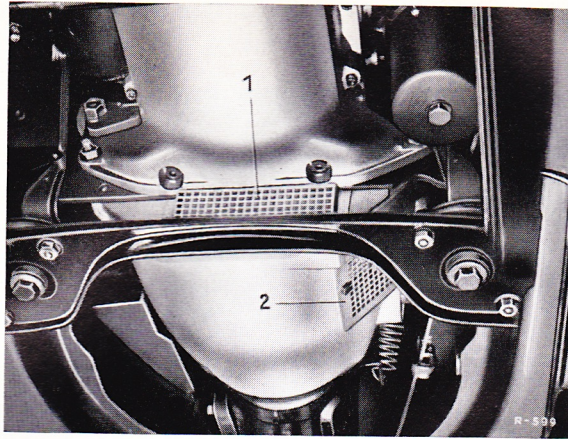

Fig. 25-0/13
**After every 8,000 km these cover plates must be carefully cleaned.** To do this, unscrew the cooling-air cover plate (1) on the front of the clutch housing (Fig. 25-0/13).